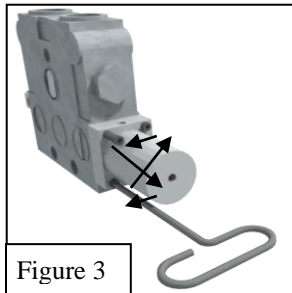

Figure 3
3. Thread Socket-Head Cap Screws through mounting holes in Cylinder Assembly to matching holes in Valve Housing as shown in Figure 3. Tighten firmly in a zig-zag pattern to 12 ft-lbs using 3/16" Allen Wrench and by holding spool on opposite end.